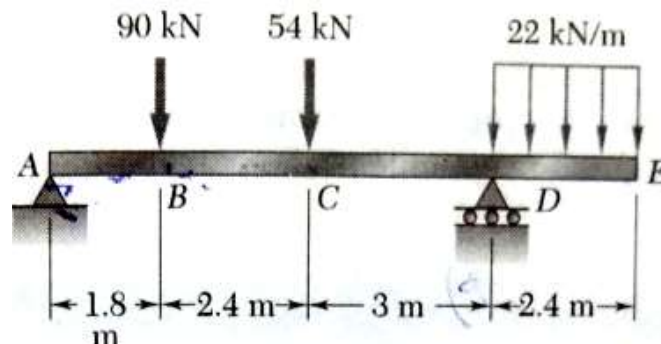

Fig.5
7. Draw the Shear and Bending-Moment diagrams for the beam and loading shown in Fig 5.